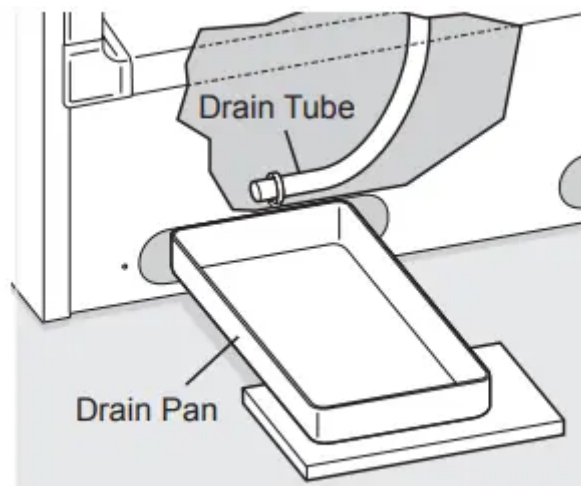
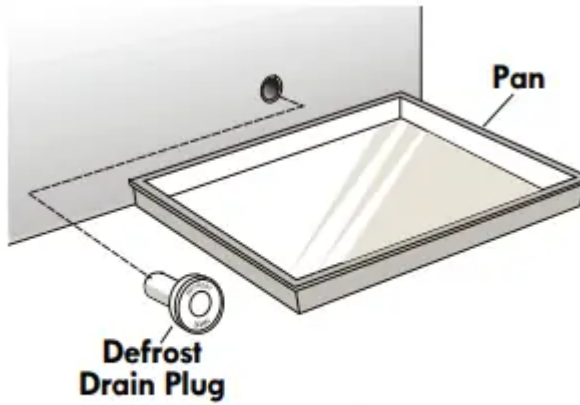
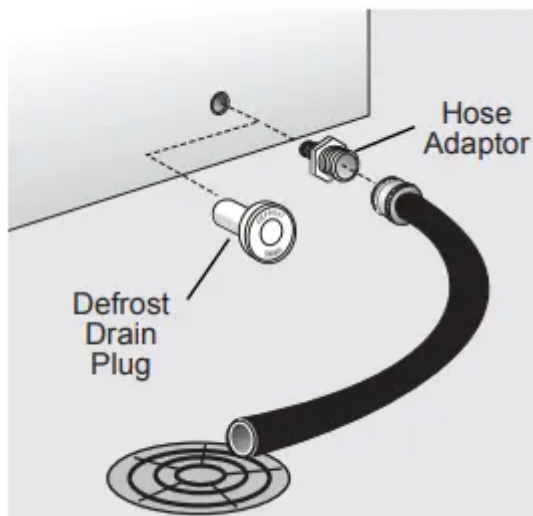

Figure 1
Figure 2
Figure 3
- Place a shallow pan under the drain tube. Defrost water will drain out. Check the pan occasionally so water does not overflow (see figure 1).
- Place a shallow pan beneath the drain outlet. Pull out the outside drain plug (see figure 2). A ½ inch garden hose adapter can be used to drain the freezer directly into a floor drain (see figure 3). If your model is not equipped with an adapter, one can be purchased at most hardware stores.
- Place a shallow pan or the Divider/Drain Pan (if equipped) beneath the drain outlet. Pull out the outside drain plug (see figure 1). A ½ inch garden hose adapter can be used to drain the freezer directly into a floor drain (see figure 2). If your model is not equipped with an adapter, one can be purchased at most hardware stores.
- Remove the drain plug inside the freezer by turning counterclockwise (see figure 3). Defrost water will drain out. Check pan occasionally so water does not overflow.